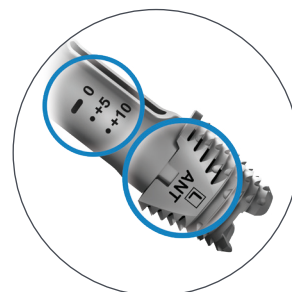

Figure 5b
- ⓘ **Note:** The femoral cone broaches are used for both “Left” and “Right” components and must be oriented correctly to accurately represent the 6 degree valgus angle of the femoral stem housing. Orient the DR handle on the side with the depth markings with the correct side of the broach facing anterior (Figure 5b).